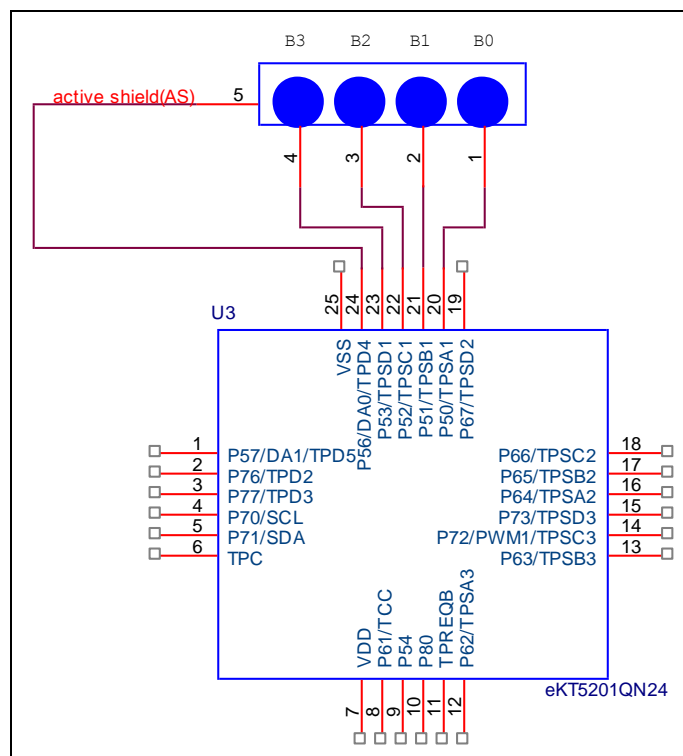

Figure 5-3 One-Line Type Sensor Group Connections for 4 Touch Buttons
The eKT5201 also supports One-Line buttons type which provides 12 sensor pins for user's programming application. The following (Figure 5-3) depicts a simple case of 4 touch buttons with Active Shield (AS) function that protects the system against environmental noise. User can activate this function with Register 0x13 (see Section 6.7.11). Either AS pin or GND pin can be used for noise shielding feature, however, both pins (AS and GND pins) cannot be connected together. The scanning sequence for One-Line type sensor group always starts from TPSA1 to TPSD1, then TPSA2 to TPSD2, TPSA3 to TPSD3.